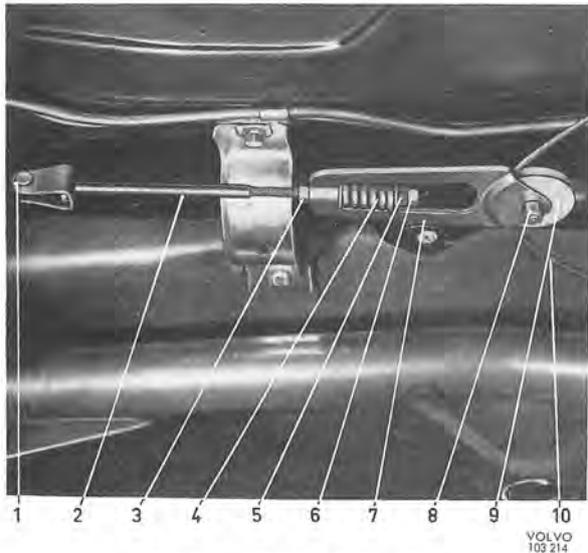
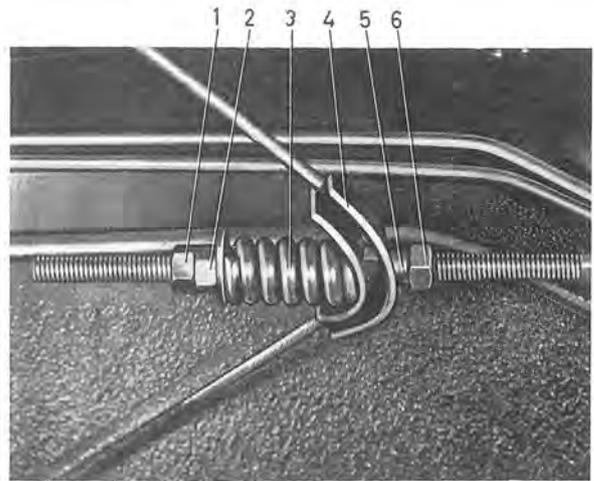

Fig. 5-81. Adjusting device cable
Fig. 5-82. Brake components, right-hand steered vehicle
3. Remove the puller (7, Fig. 5-81) or the clevis (4, Fig. 5-82). Remove the wheel from the cable.
1. If new linings or drums are to be fitted, slacken the pulley (7, Fig. 5-81) or the clevis (4, Fig. 5-82) to remove tension in the cable.